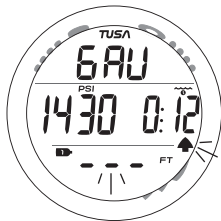

Fig. 102 - GAUG DV3
**DV3 Main**, information includes (Fig. 102) -